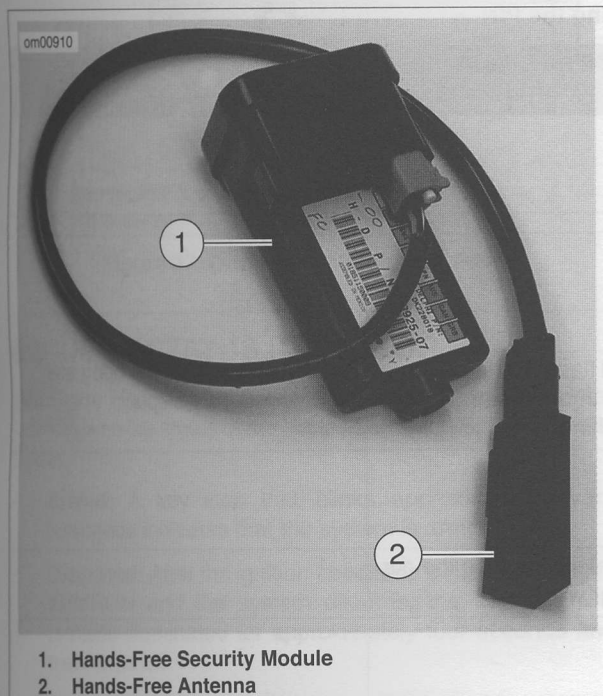

Figure 35. Security Module w/Antenna
See Figure 35. The Harley-Davidson Smart Security System (H-DSSS) consists of a Hands-Free Security Module (HFSM) (1) and a Hands-Free Antenna (2) mounted on the motorcycle, and a Hands-Free Fob **carried** by the rider/passenger.